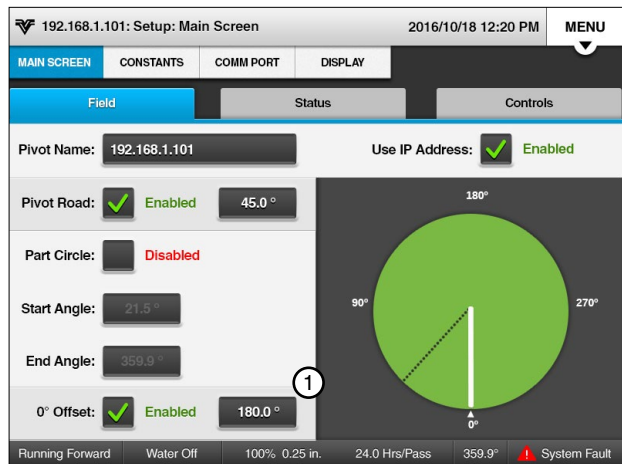

Figure 12-1 1. 0 Degree Offset
1. Push **Menu**, **Setup**, **Main Screen**, and **Field** to display the Field screen. Refer to Figure 12-1.